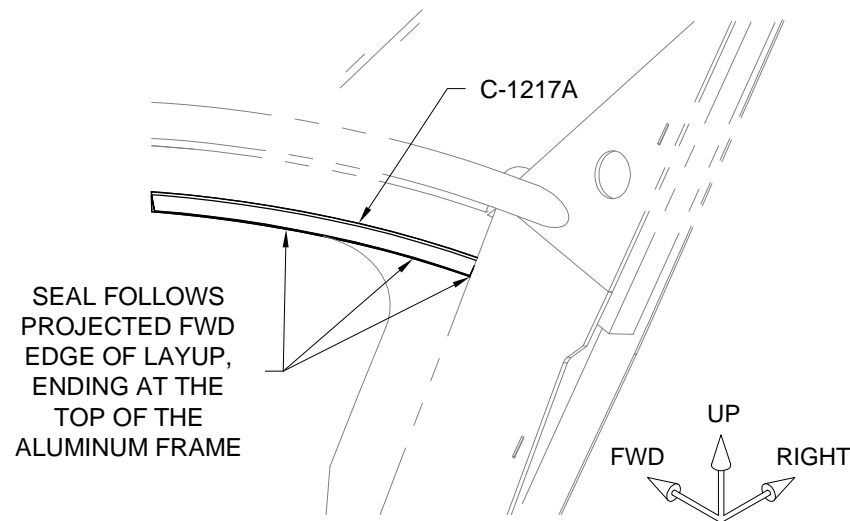

FIGURE 2: SEAL LOCATION
Step 5: Position the seal as shown in Section A-A and Figure 2, starting at one end and working toward the other.